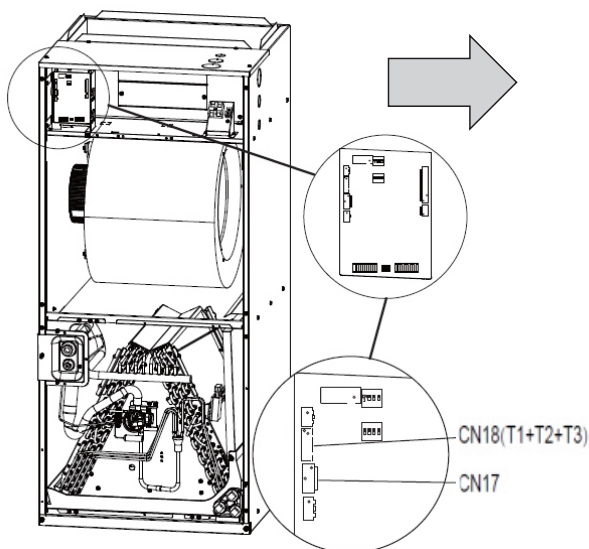

Figure 5.6E – CN17 and CN18 Sensor Plug Locations
- Refer to Figure 5.6E for exact plug identification.